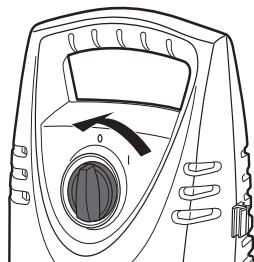

Fig. 18
- > Turn the on/off switch (6) anti-clockwise to its off position ("O") to switch the product off (Fig. 18).